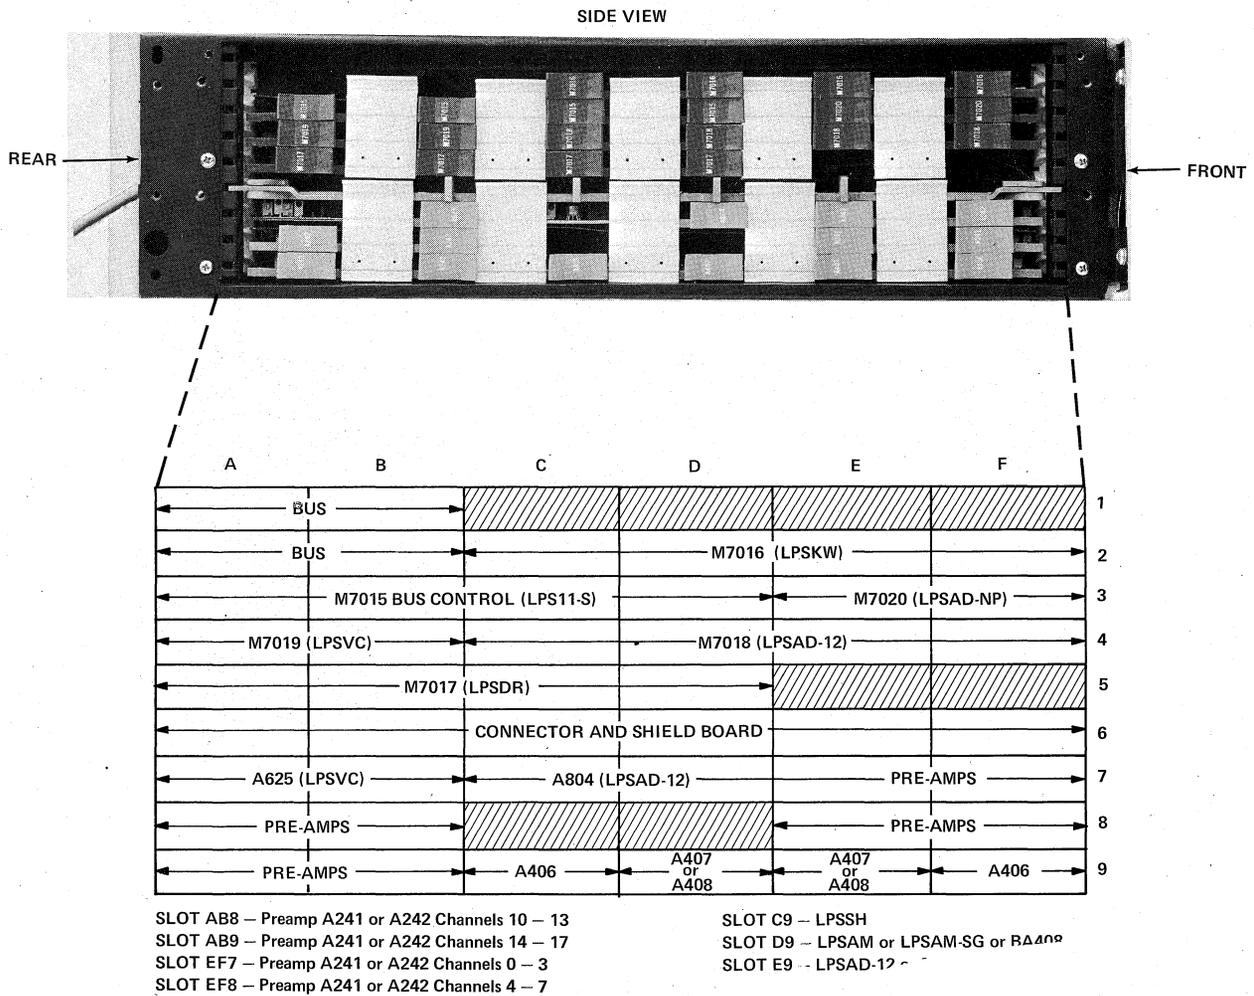

Figure 2-4 LPS11-S Option Slot Allocations
Figure 2-4 shows the mounting box complete with modules, together with a guide illustrating the option slot allocations. Module guides assist in inserting the modules into the proper slots.
4. Insert the cable connector in the appropriate slot (A2/B2 as shown in Figure 2-4).
2. Remove the bus control module (M7015) from the unit. (See Figure 2-4 for location in slots A3/B3/C3/D3.)
2. Remove the grant continuity card from slot E3 (Figure 2-4).
3. Insert the multiplexer module into slot D9 (Figure 2-4).